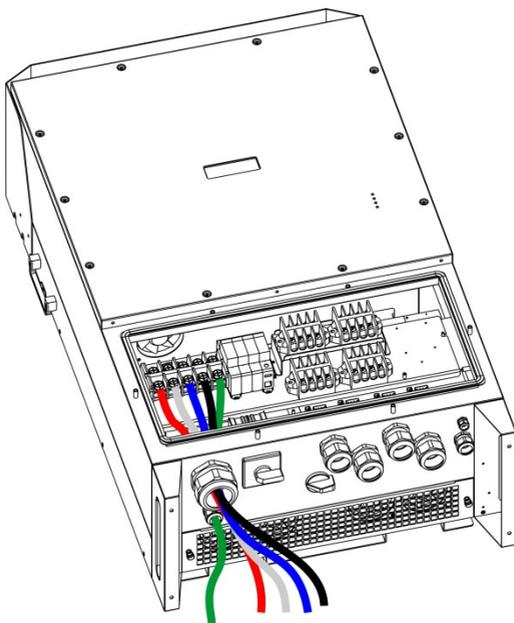

Figure 7
Step 3: Tighten the equipment's PE thread locknut; 3 Nm torque must be applied for proper tightening. The installation is thus completed, as shown in Figure 7.
Step 4: Tighten the AC output and the system PE thread locknut;16 Nm and 3.5 Nm torques must be applied for proper tightening. The installation is thus completed, as shown in Figure 7.